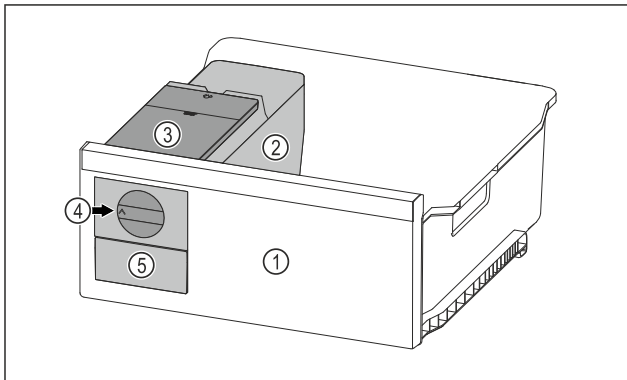

Fig. 70 Example illustration
- ▶ Turn the rotary knob *Fig. 70 (4)* clockwise as far as it will go.
- ▷ Ice cubes fall from the ice cube tray into the ice cube drawer *Fig. 70 (5)*.